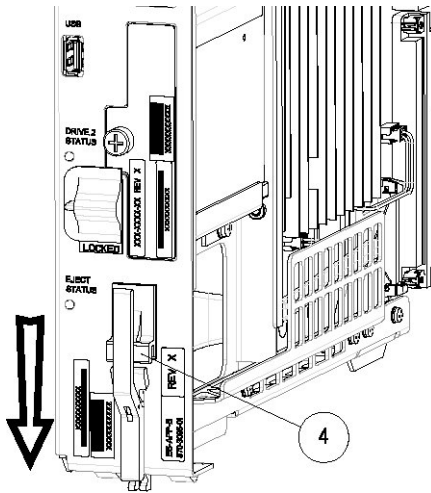

Figure 32: E5-APP-B Card Inject Hardware Switch, LOCKED
4. Slide the E5-APP-B Ejector switch (4) down to the LOCKED position (see Figure 32: E5-APP-B Card Inject Hardware Switch, LOCKED).